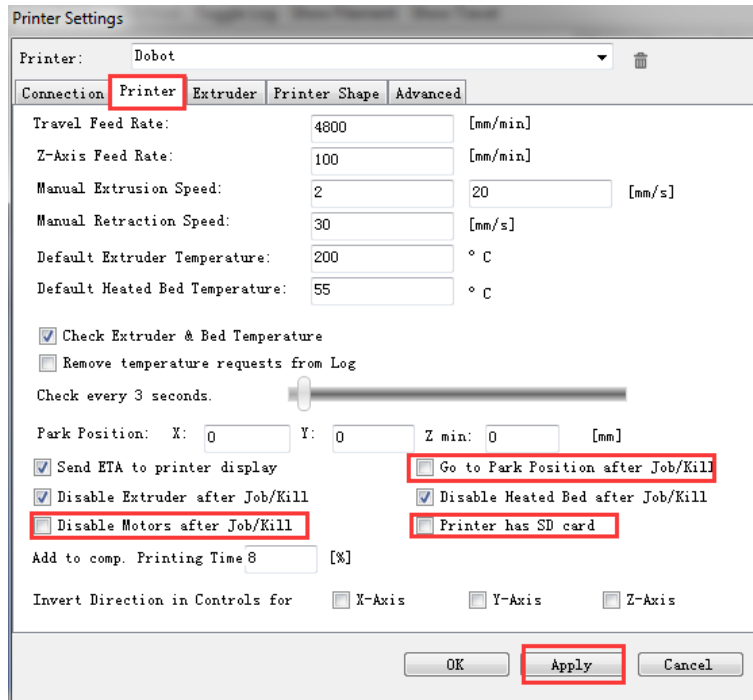

Figure 5.88 Unselect options
3. Unselect the corresponding options on the Printer tab as shown in the red box of Figure 5.88 and the other parameters are set by default. Then click **Apply**.